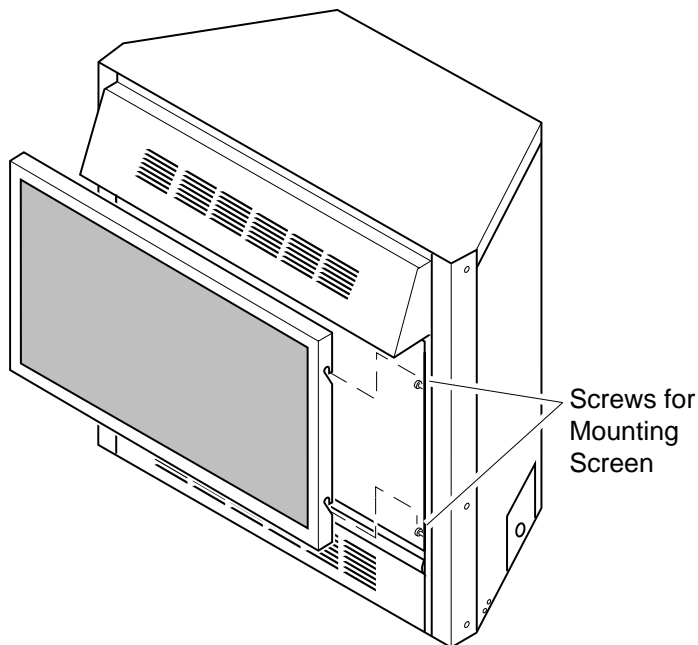

Figure 1 - Removing Fireplace Screen
1. To remove screen, lift screen up off the screws in front of fireplace (see Figure 1).
10. Replace screen (see Figure 1, page 2).